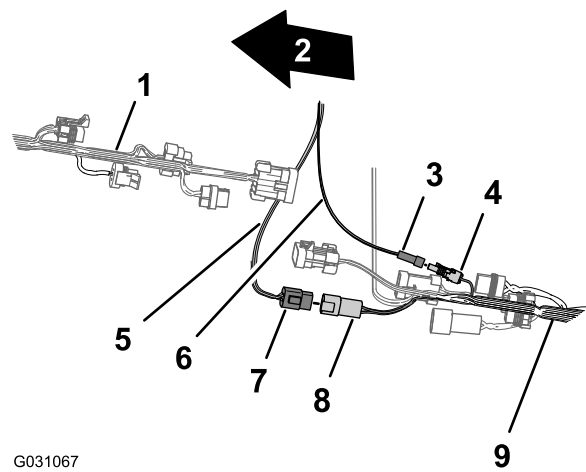

Figure 161
4. Connect the 1-pin connector of the electrical-harness to the 1 socket connector of the rear wire harness (Figure 161).
3. Connect the 4-pin connector of the data harness for the CAN 2/sprayer controller into the 4-socket connector of the rear harness for the CAN 2/sprayer-controller circuit (Figure 161).